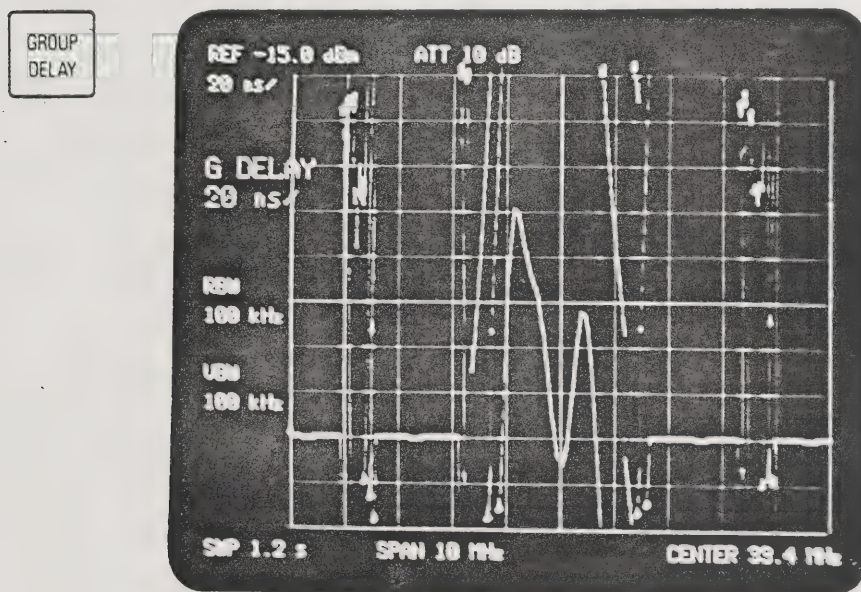

Fig. 7-9 Group delay measurement
- (11) If phase overflow occurs in the pass band due to the increased phase resolution, press the (G.D. OFFSET) key to activate group delay offset. Then adjust the phase slope in the pass bandwidth with the DATA knob.
- (12) The group delay of the device under test can be observed by pressing the GROUP DELAY key (Figure 7-9).
- (13) For more precise group delay measurement, write the group delay of the through response into trace memory A at the same resolution (pages 7-1 and 7-2), bring the display line close to the through response trace, then press the SHIFT and MHz keys to eliminate the the group delay of the measuring system itself. Use of the averaging mode ((8) on page 7-2) will provide still more precise measurement.
- (14) If a greater signal-to-noise ratio is desired, press the VIDEO BW key to narrow the video bandwidth. At this time press the SWEEP TIME key and select a relatively long sweep time.